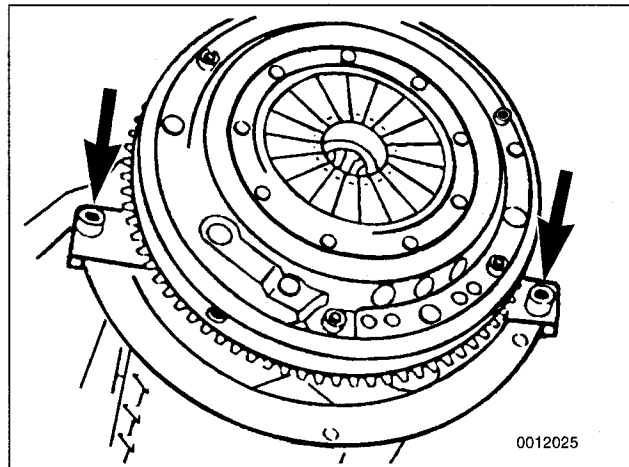

Fig. 14. Bellhousing alignment dowels (arrows).
- Be sure bellhousing dowels are correctly located. See Fig. 14.